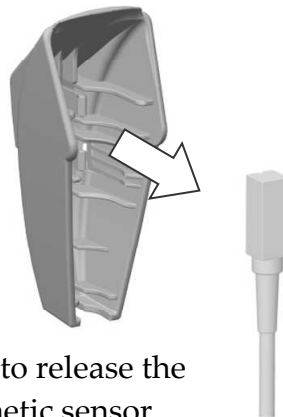

Fig.14 How to release the Magnetic sensor
- 2) Release the Magnetic sensor from the Magnetic sensor attachment as shown in Fig.14.